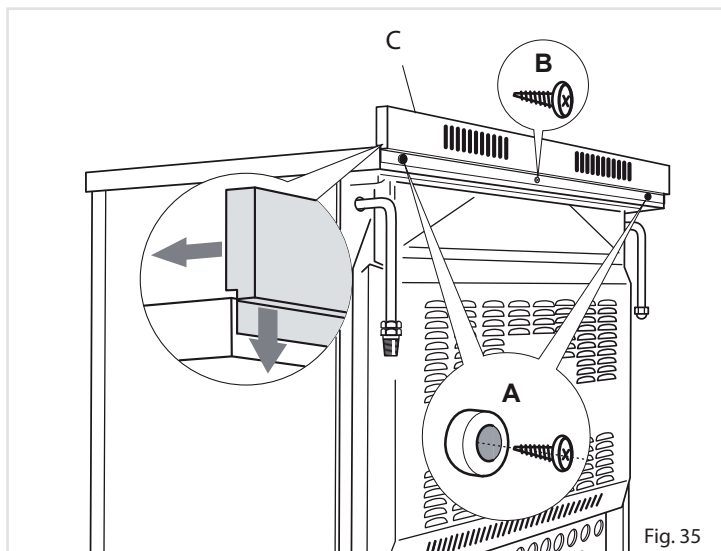

Fig. 35
- Assemble the backguard as shown in figure 35 and fix it by screwing the central screw "B" and the spacers "A".